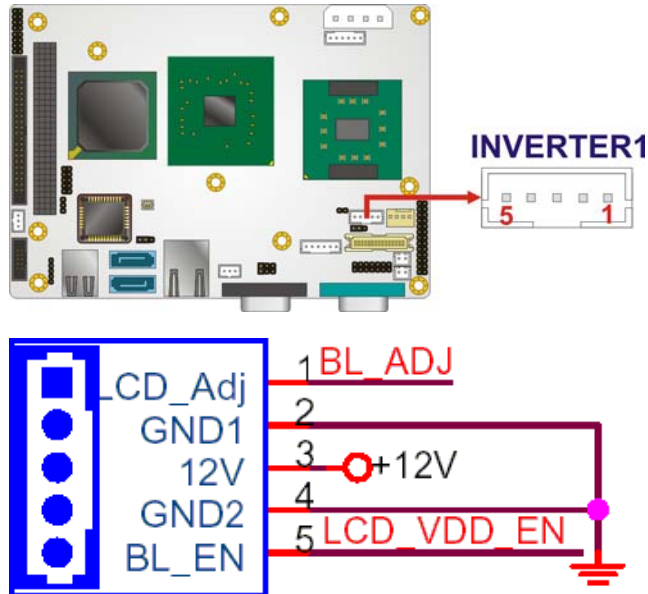

Figure 4-13: Panel Backlight Connector Pinout Locations
- CN Location:** See Figure 4-13